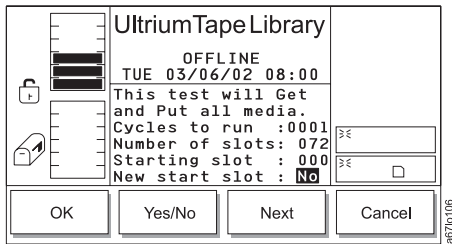

Figure 4-141. New Start Slot Dialog
- a. Press the button below the **Next** softkey until the selection cursor highlights the New start slot field. The New Start Slot Dialog displays (see Figure 4-141).